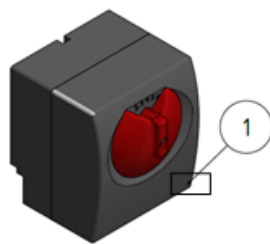
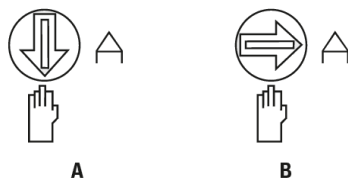

Fig.11: Servomotor emergency manual operation
Fig.13: Set mixing valve operating mode
A bypass is integrated in the mixing valve, which is closed in the delivery state (Fig.11, position A).
3. Open the bypass adjusting screw (Fig. 11, position A, 0% closed) by turning it to the right by 90° (Fig. 11, position B, 100% open).
The servomotor (Fig.11) has an emergency manual operation and is delivered incl. mounting kit with 2m cable. It is placed on the mixing valve and screwed tight. The servomotor must be ordered separately and is not part of the standard pump group.
Set emergency manual operation by turning the plastic adjusting screw (Fig.11 No.1) on the housing. The symbolism is explained in Fig. 13.